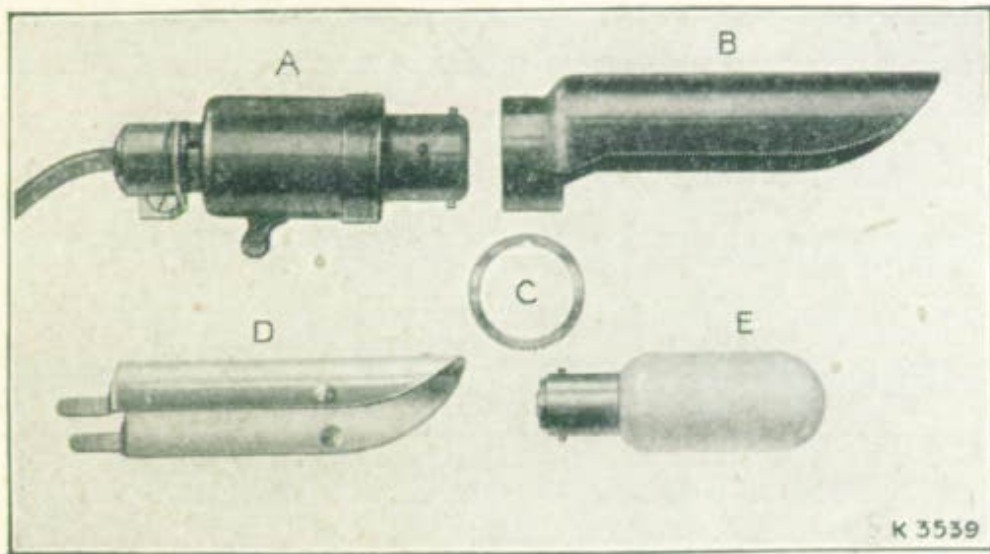

Fig. 15.
The Singerlight is sent from the factory in five parts, as shown in Fig. 15. These are :—
Hold the Singerlight body in the left hand, with its two pins (A) in the position shown above, and with the right hand place the spring washer (C, Fig. 15) over these pins and against the shoulder (D). Then, holding the shield (B, Fig. 15), cupped side towards you, as illustrated, pass the two grooves (B) in its collar over the two pins (A), and pressing the shield hard against the washer, give it a quarter turn over towards you so that the name "Singer" is on top and the switch (C) is underneath. Next, holding the Singerlight body with shield, in the left hand, insert the two prongs of the reflector (D, Fig. 15) into the two grooves in the collar of the shield and press the reflector back as far as possible. Now, holding the bulb at its round end, between the thumb and the forefinger of the right hand, insert it by passing its two pins into the two small slots in the socket of the Singerlight body and, pressing the bulb firmly into the socket, give it a slight turn from you so that it is securely held in position.